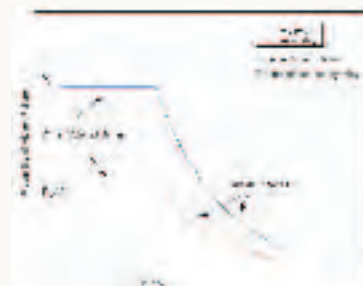
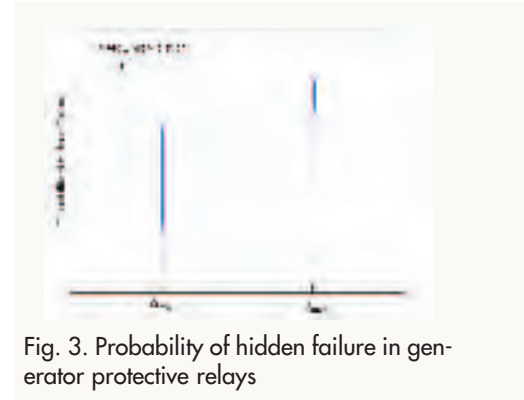

Fig. 2. Probability of hidden failure in line protective relays
Fig. 3. Probability of hidden failure in generator protective relays
line protective relays and the VAR limit violation detected by generator protective relays. Fig. 2 shows the probability of hidden failure as a function of impedance seen by the line protective relay. Fig. 3 shows the probability of incorrect generator tripping as a function of reactive power. Let us consider the blackouts in a simple network. In Fig. 4, a legitimate relay operation on line 3 exposes line 2 and line 4. The generator protective relay at bus 2 is exposed due to a VAR limit violation. Now, all the exposed relays are subject to possible false tripping.
3. Determine all hidden failures exposed by the last event and find the probabilities of false tripping from Fig. 2 and Fig. 3; Check the transmission limits.
We have recorded  $p_{ij}$ 's for hidden failures in all significant blackout paths during the simulation. Suppose the probabilities of hidden failures in the new relays are reduced by a half as shown in Fig. 2. Then, all  $p_{ij}$ 's associated with the new relays in (6) will also be reduced by a half. In the case that  $H$  can be used to upgrade relays at ten locations in the NYPP system, solving the equation (6) yields the optimal solution listed in Table 2. The ten locations in Table 2 are quite different from the top ten in Table 1 where records are sorted by vulnerabilities. Their improvements over the original system are compared in Fig. 7. In both cases, the major improvement comes from the new relays around Indian Point. However, their difference is still significant. In general cases where many relays have similar vulnerabilities, the optimal solution is expected to yield a much better improvement.